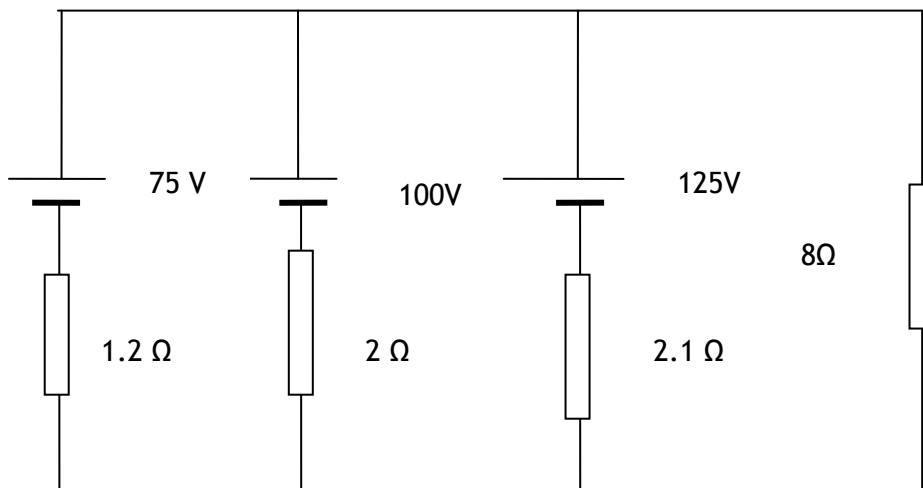

Fig Q1
1. For the circuit shown in Fig Q1 determine EACH of the following:
- (a) the current supplied by each battery; (10)
- (b) the voltage across the $8\ \Omega$ load resistor; (3)
- (c) the power dissipated in the $8\ \Omega$ resistor. (3)